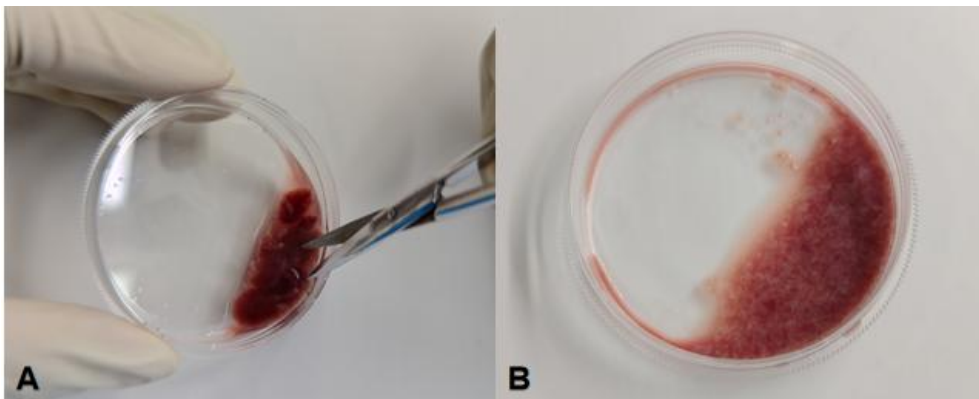

Figure 1. Treatment of liver tissue in vitro
- (1) Tissue Processing
- b. Quickly cut the tissue into 1 mm3 pieces using ophthalmic scissors 3, until the tissue is sugar like (as shown in Figure 1) and there are no large pieces of tissue. Use a Pasteur pipette or a pipette with a wide mouthed tip to transfer the tissue fluid and transfer it to a 50 mL centrifuge tube. Add 5 mL **Specialized Washing Solution For Rat Liver Sinusoidal Endothelial Cells** to clean the liver tissue culture dish and transfer it to the same centrifuge tube. Centrifuge at 300 g for 1 min, discard the supernatant, and retain the tissue precipitate.
- (2) Tissue Digestion